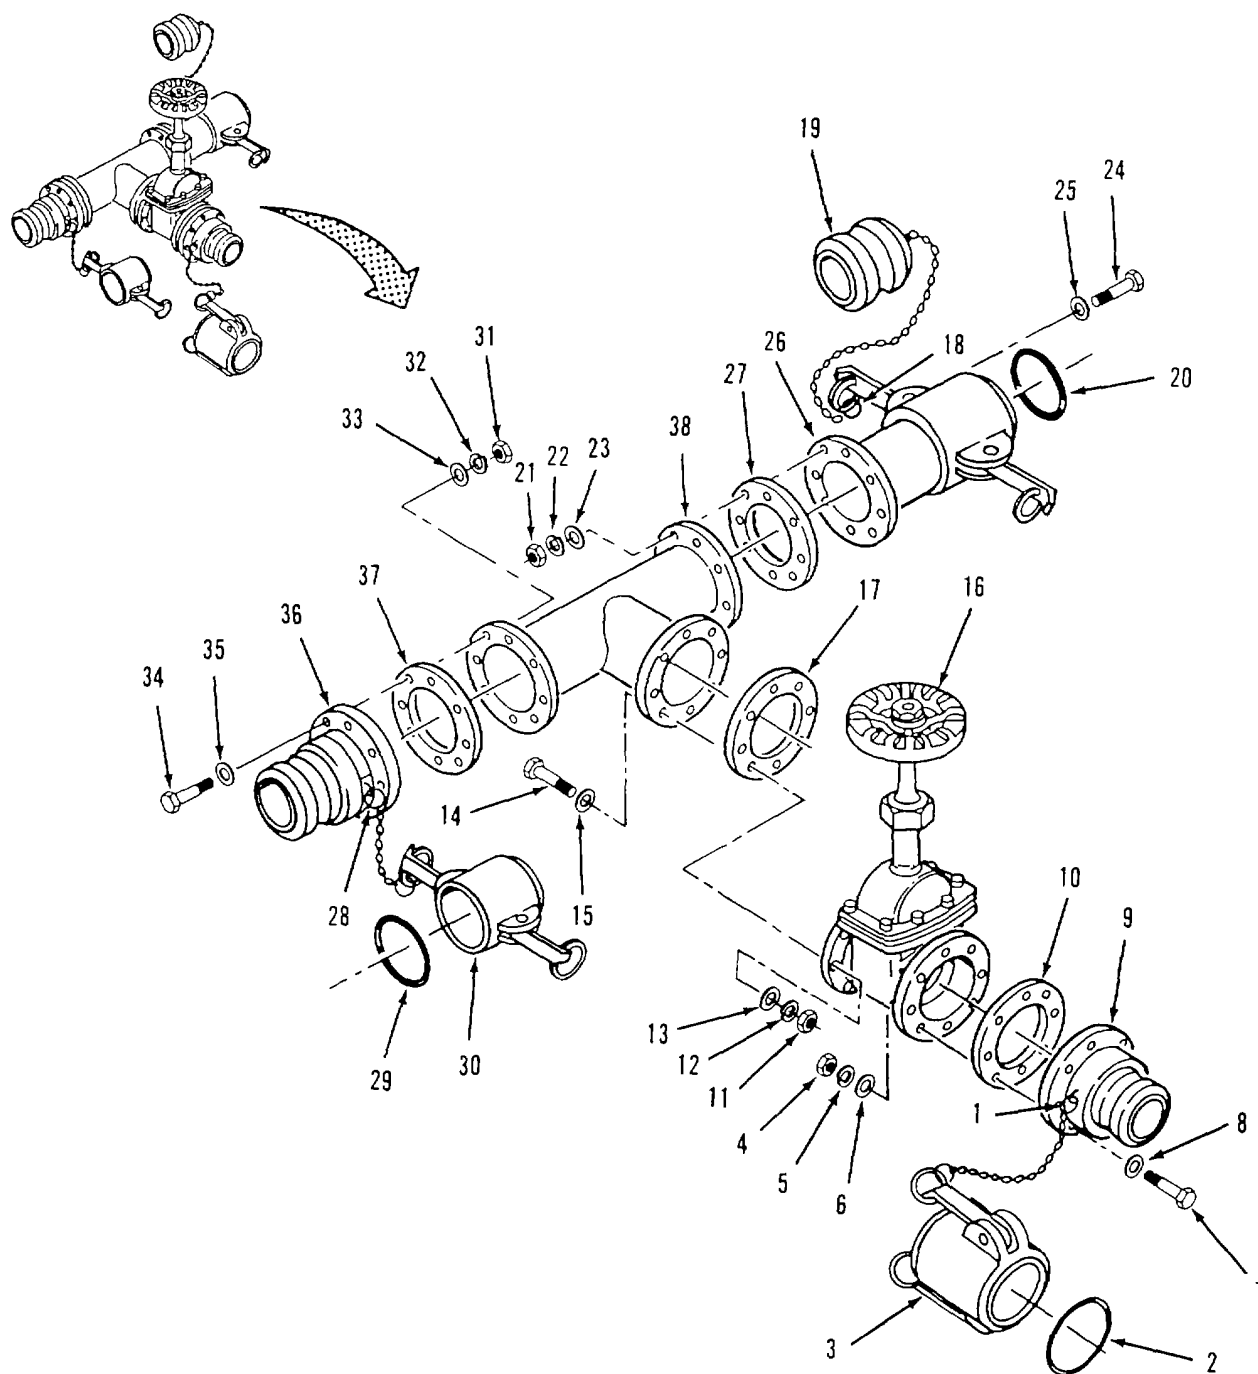

Figure 4-31. Tee and Gate Valve assembly (9114-Y1) Disassembly.
a. Disassembly. Refer to figure 4-31.
- (1) Disconnect ring (1) from male coupling (9) and remove cap (3).
- (2) Remove gasket (2) from cap (3).
- (3) Remove eight nuts (4), lockwashers (5), flat washers (6), screws (7) and flat washers (8).
- (4) Separate male coupling (9) and gasket (10) from gate valve (16).
- (5) Remove eight nuts (11), lockwashers (12), flat washers (13), screws (14) and flat washers (15).
- (6) Separate gate valve (16) and gasket (17) from tee (38).
- (7) Disconnect ring (18) from female coupling (26) and remove plug (19).